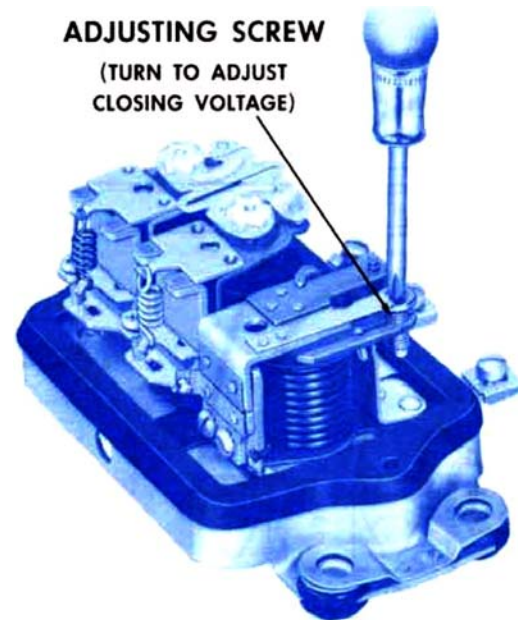

Figure 11 – Adjustment of cutout relay closing voltage.
- (3) Adjust closing voltage (either method) by turning adjusting screw (Fig. 11). Turn screw clockwise to increase setting and counterclockwise to decrease setting.